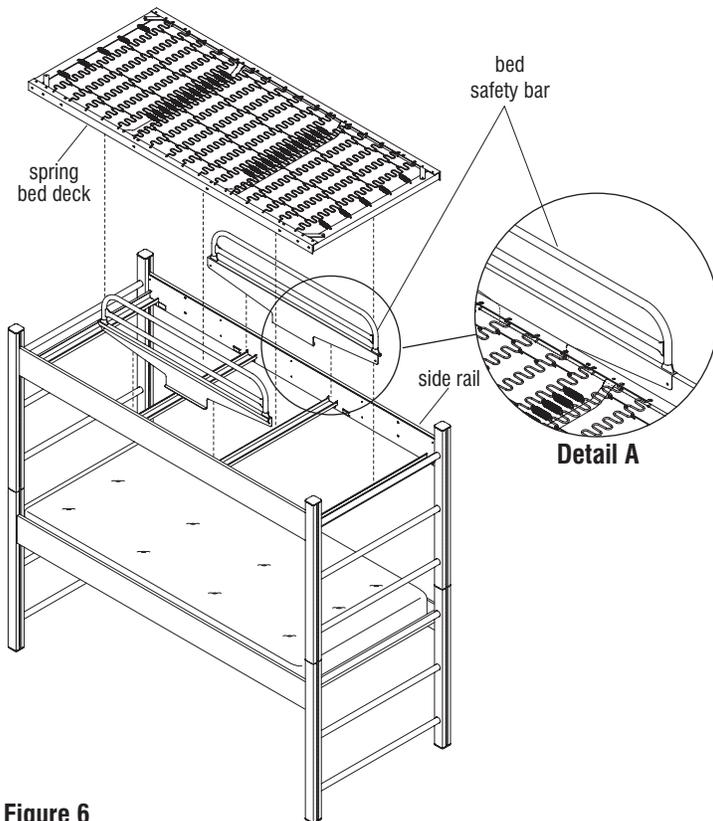

Figure 6
1. Position the bed safety bar as illustrated, so the top lip of the channel goes over the top edge of the side rail (Figure 6 & Detail A).
2. Next, rotate the safety bar so that its bottom lip is positioned below the bed side rail, on the inside of the bed frame (Figure 6 & Detail A).